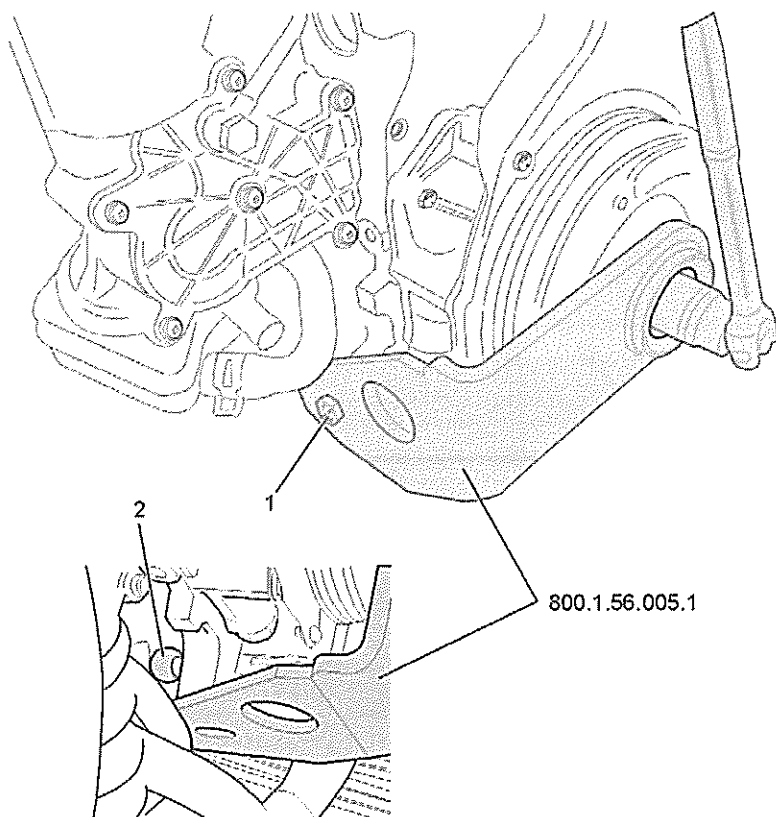

Fig 27 Vibration damper – loosening/tightening
105 Fit brace tool (800.1.56.005.1). The brace tool is secured to the engine block in two different ways dependant on vehicle. Inspect the engine block prior to fitting the brace tool to ensure the correct securing bolt is used. The brace tool is secured using either an M10 bolt into engine block side tapping (See Fig 27 (1)) or using a vertical eye bolt and nut (2).
DAMAGE TO TOOL. It is essential to screw the brace tool modified 800.1.56.005.1 onto the cylinder block as shown (Fig 27) otherwise the tool will be damaged.
- 123 Fit vibration damper with new central bolt. Insert brace tool (800.1.56.005.1) – see Para 105, 106 and Fig 27 – and tighten central bolt on vibration damper / camshaft belt gear to 160 Nm plus ½ turn (180°) (turning further may be carried out in several steps).